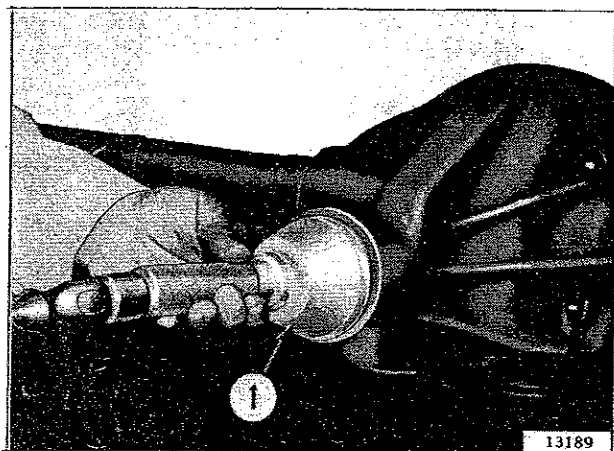

FIG. N-31—PINION SHAFT OIL SEAL INSTALLER
p. Remove the sleeve previously installed in place of the yoke. Install the oil seal with Tool W-147 shown in Fig. N-31.